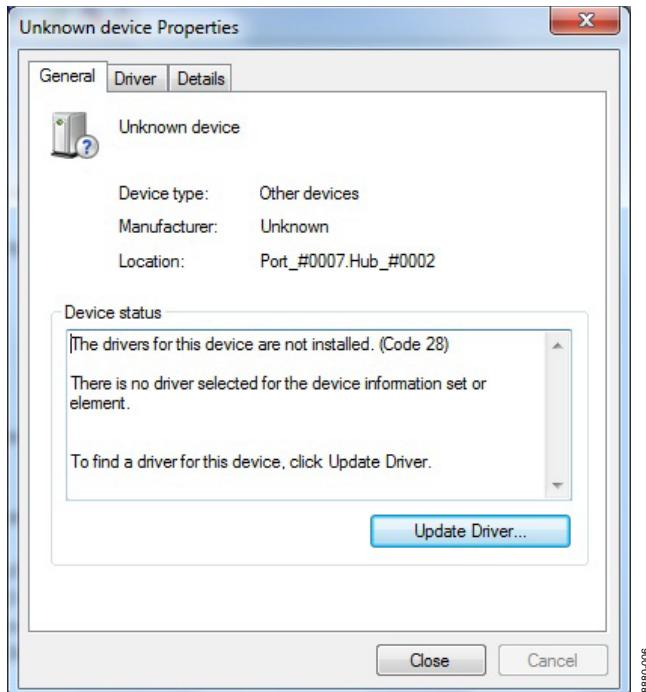

Figure 6. Unknown Device Properties
- Click **Update Driver** in the properties window (see Figure 6).